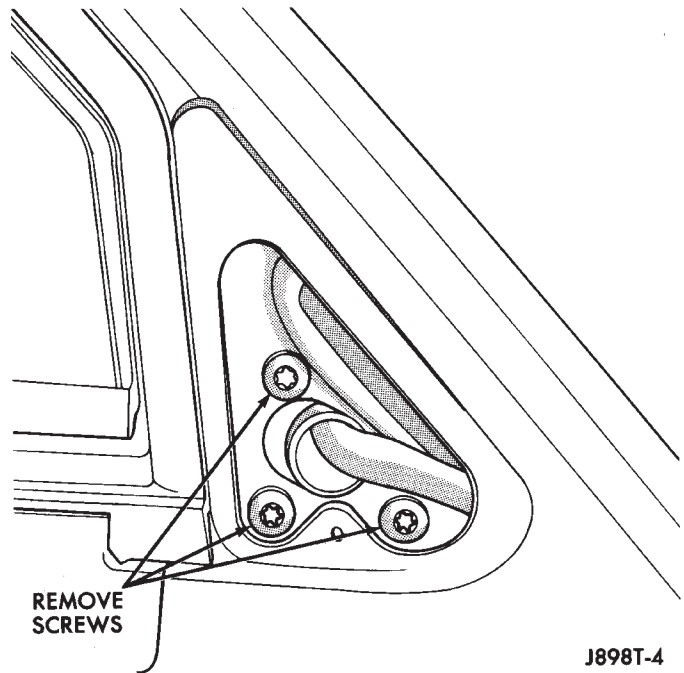

Fig. 6 Power Mirror Removal/Installation—XJ
(9) Disconnect power mirror wire harness at connector in door.
(10) Pull harness up through door.
(11) Remove 3 screws holding mirror to door (Fig. 6).
(12) To install a power mirror, reverse the removal procedure.